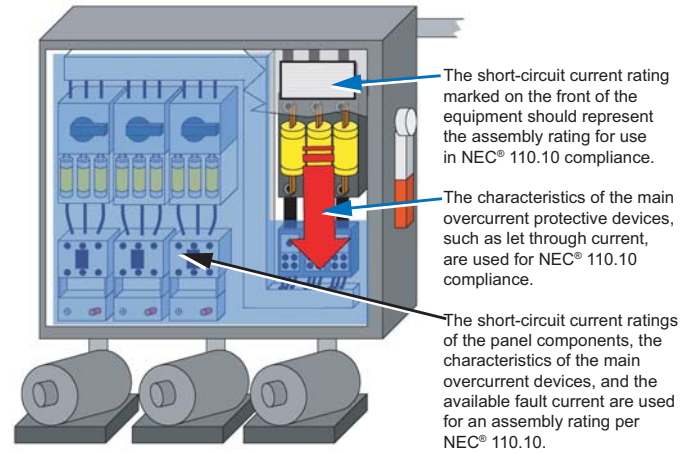
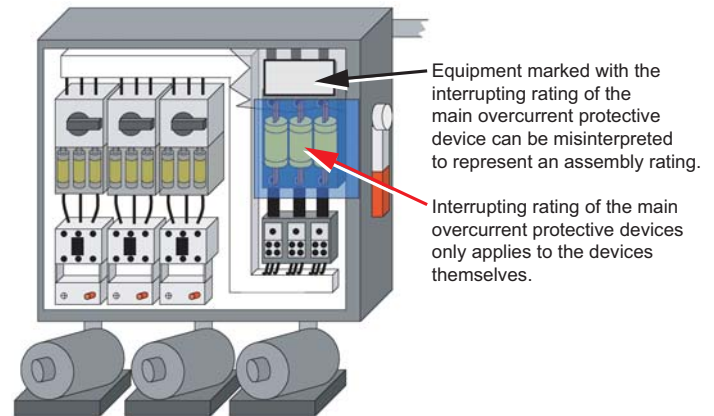

Figure 2.
Figure3. — Interrupting ratings pertain ONLY to the overcurrent protective device
**CAUTION:** Short-circuit current ratings are different than interrupting ratings marked on overcurrent protective devices. A common mistake is to assume that the interrupting rating of the overcurrent protective device protecting the circuit represents the short-circuit rating for the entire circuit, see Figure 3. Interrupting ratings, used for compliance with NEC® 110.9, are ratings for overcurrent devices. It is the characteristics of the overcurrent device (e.g. opening time, let-through energy, etc.) that need to be used in determining compliance with NEC® 110.10, not the interrupting rating, see Figure 2. However, overcurrent protective devices' interrupting ratings are one key factor in determining an assembly's short-circuit current rating.